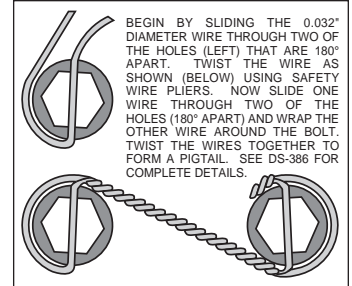

Figure 3. Safety Wire Diagram
- Orient the rotor (3) and the hat (4) as shown in Figure 1 and Photo 1. Attach rotor to hat using bolts (6), washers (5) and t-nuts (13). Using an alternating sequence, apply red *Loctite*® 271 to the threads, and torque to 120 **in-lbs**. Please refer to Wilwood's data sheet DS-392 (available at [www.wilwood.com/Pdf/DataSheets/ds392.pdf](http://www.wilwood.com/Pdf/DataSheets/ds392.pdf)) for complete t-nut bolt kit installation instructions. Safety wire bolts using standard 0.032 inch diameter stainless steel safety wire as shown in Figure 3. Refer to Wilwood's data sheet DS-386 (available at [www.wilwood.com/Pdf/DataSheets/ds386.pdf](http://www.wilwood.com/Pdf/DataSheets/ds386.pdf)) for complete safety wire installation instructions.